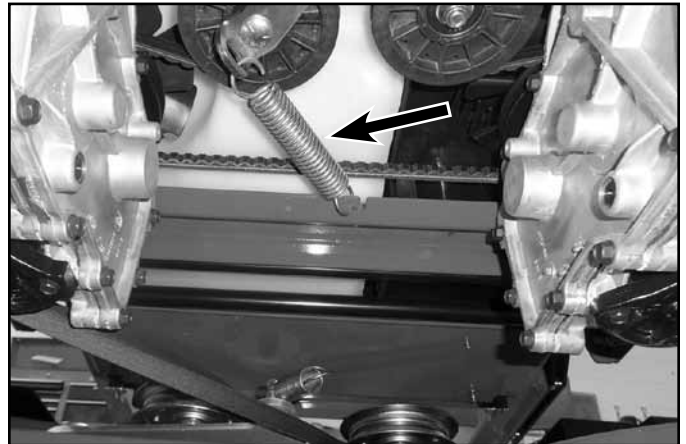

Fig. 072
8. Remove the drive belt tensioner spring (Fig. 072).